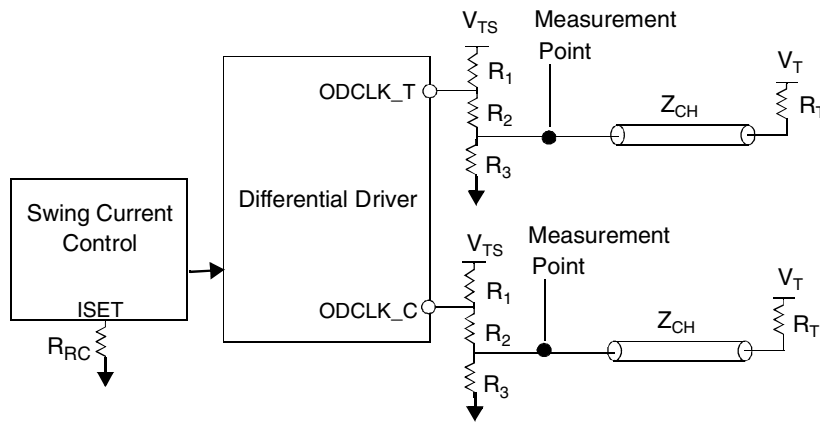

Figure 2. Example System Clock Driver Equivalent Circuit
- 1 When using singled-ended clock input, V_{TH} is supplied to CLK_INTIC as shown in Figure 2. Duty cycle of singled-ended CLK_IN is measured at V_{TH}
Figure 2 shows the clock driver equivalent circuit. The differential driver produces a specified voltage swing on the channel by switching the currents going into ODCLK_T and ODCLK_C. The external resistor R_{RC} at the IREFY pin sets the maximum current. The minimum current is zero.
The driver output characteristics are defined together with the external resistors, R_1 , R_2 , and R_3 . The output clock signals are specified at the measurement points indicated in Figure 2. Table 5 shows example values for the resistors.
- 1 A different set of resistors is used in Figure 2 when testing for maximum output current of the clock driver (I_{OLABS}). These resistors are: $R_1 = 34\Omega$, $R_2 = 31.8\Omega$, $R_3 = 48.7\Omega$, $R_T=28\Omega$, $R_{RC} = 147\Omega$
For a singled-ended clock input, an external voltage divider and a supply voltage, as shown in Figure 2, provide a reference voltage V_{TH} at the CLK_INC pin to determine the proper switching point for CLK_INT. The range of V_{TH} is specified in the **DC Characteristics – Inputs** table.